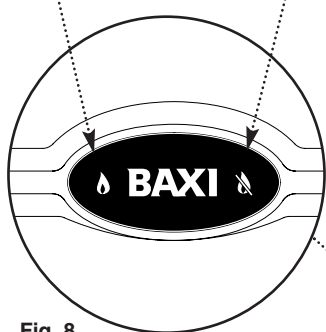

Fig. 8
NOTE: Two status indicators can be seen through the badge (Fig. 8).
- If the device operates, the red flame failure indicator will light (Fig. 8) and the boiler will shut down.